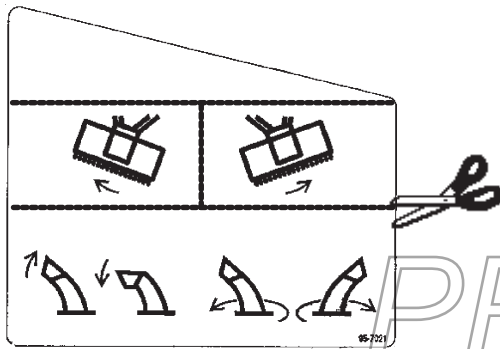

Figure 19
- On switch decal (supplied with wire harness kit) cut out graphics which only represent brush operation. Approximate size is shown by dotted lines in figure 19. Each decal should be approximately 1" by 1-1/4" .